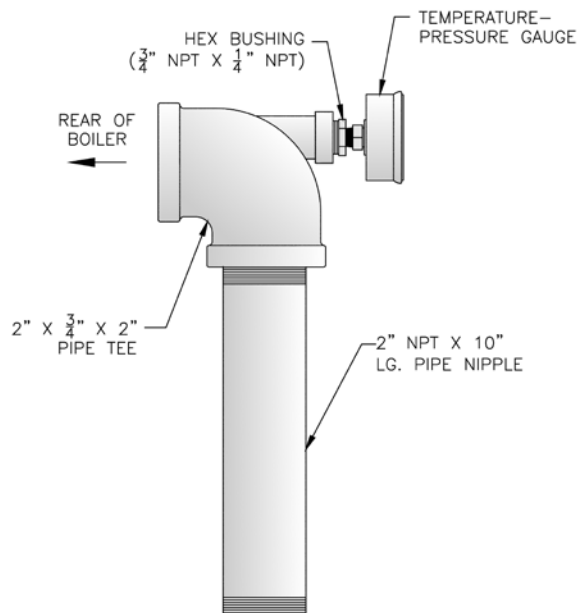

Figure 21: Alternate Temperature-Pressure Gauge Installation
2. Alternate Temperature-Pressure Gauge Piping. See Figure 21.